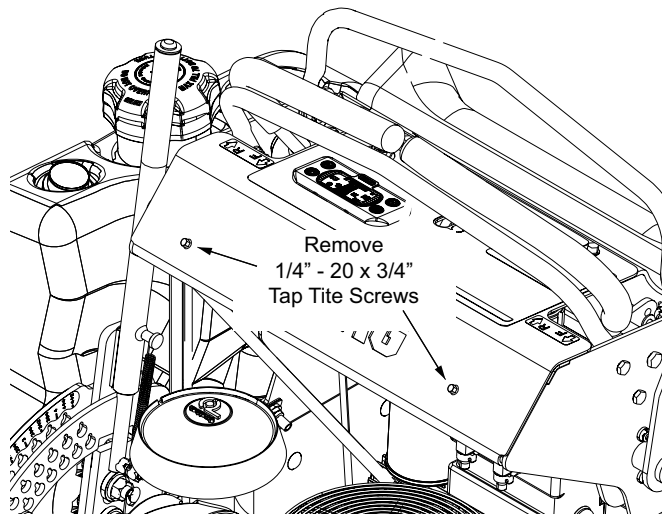

Figure 3-46. Control Panel Hardware Removal
11. Remove and discard the two (2) 1/4-20 x 3/4" tap tite screws from the front of the control panel. See Figure 3-46.